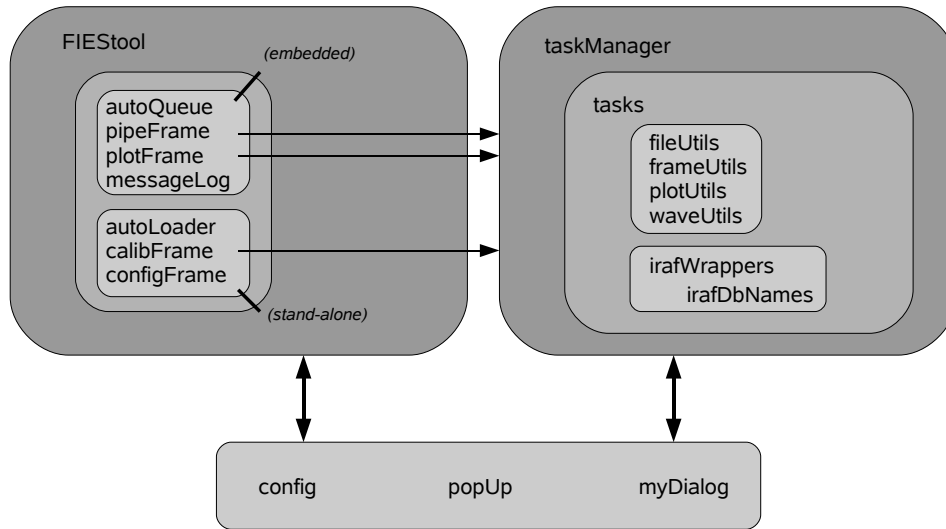

Figure 6: Schematic overview of the relation between program files
Below follows a description of the files contained in the software package. A schematic overview of the relation between the files is shown in figure 6.
- **taskBar** provides graphical representation of tasks, used by **pipeFrame** and **calibFrame**. This routine is not shown in figure 6.